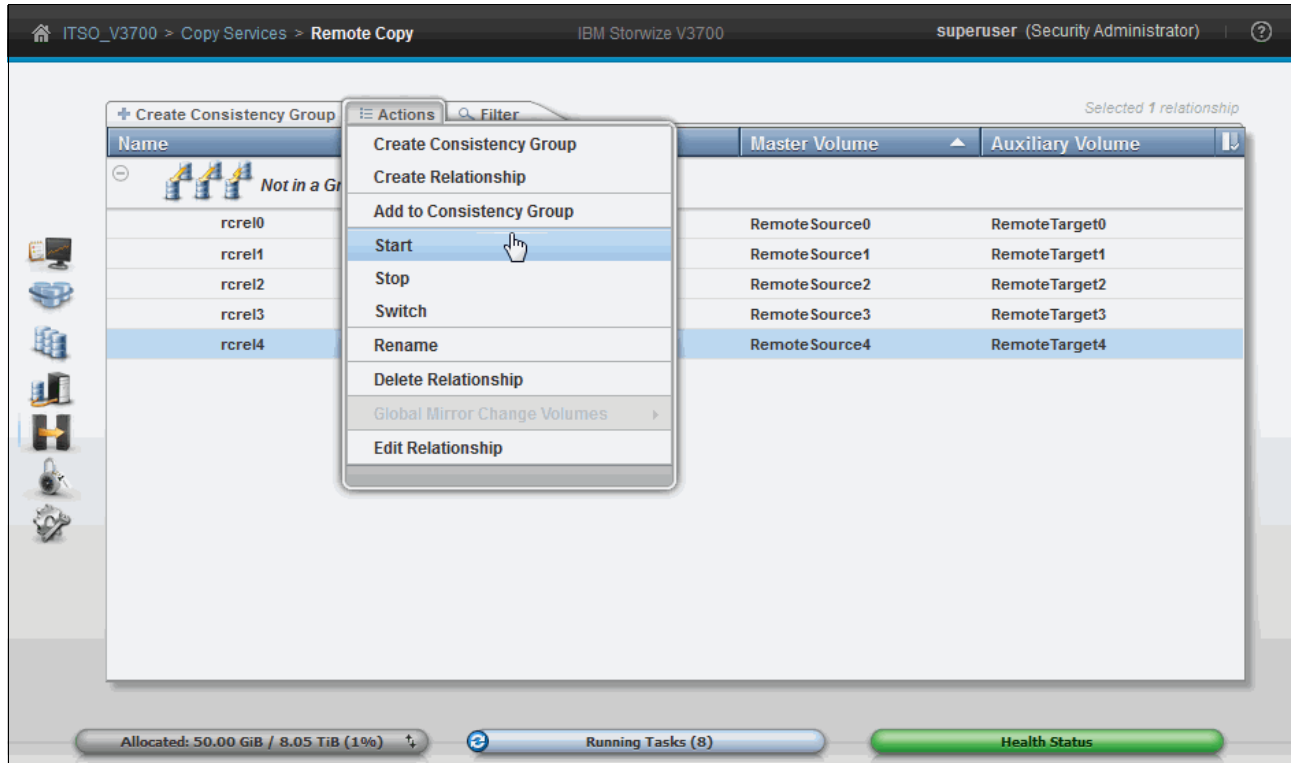

Figure 10-112 Re-start a Remote Copy relationship
1. Select the relationship and click **Start** from the **Actions** menu, or right-click, as shown in Figure 10-112.